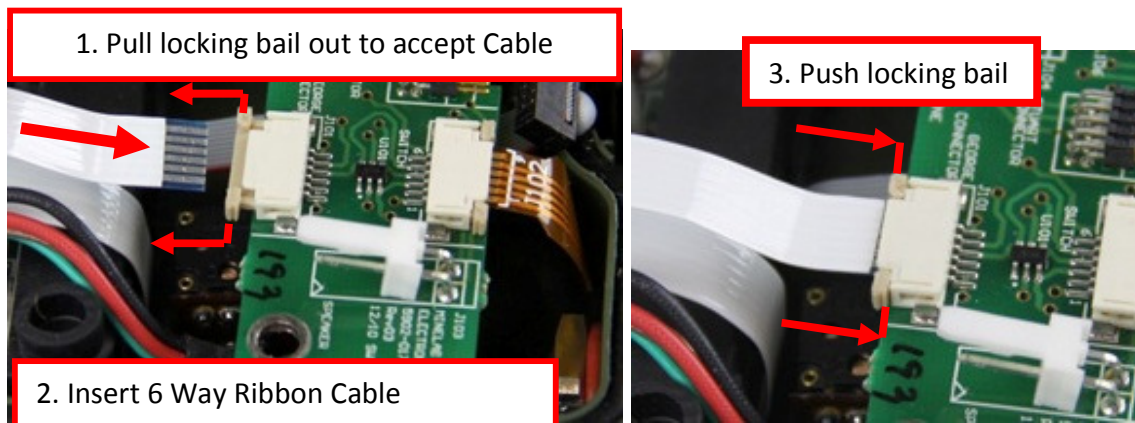

Figure 44: Connecting Six Way Ribbon Cable
- Align the cable 6 way ribbon with its connector. Slide the connector locking bail outwards to accept the cable 6 way ribbon. Figure 44.